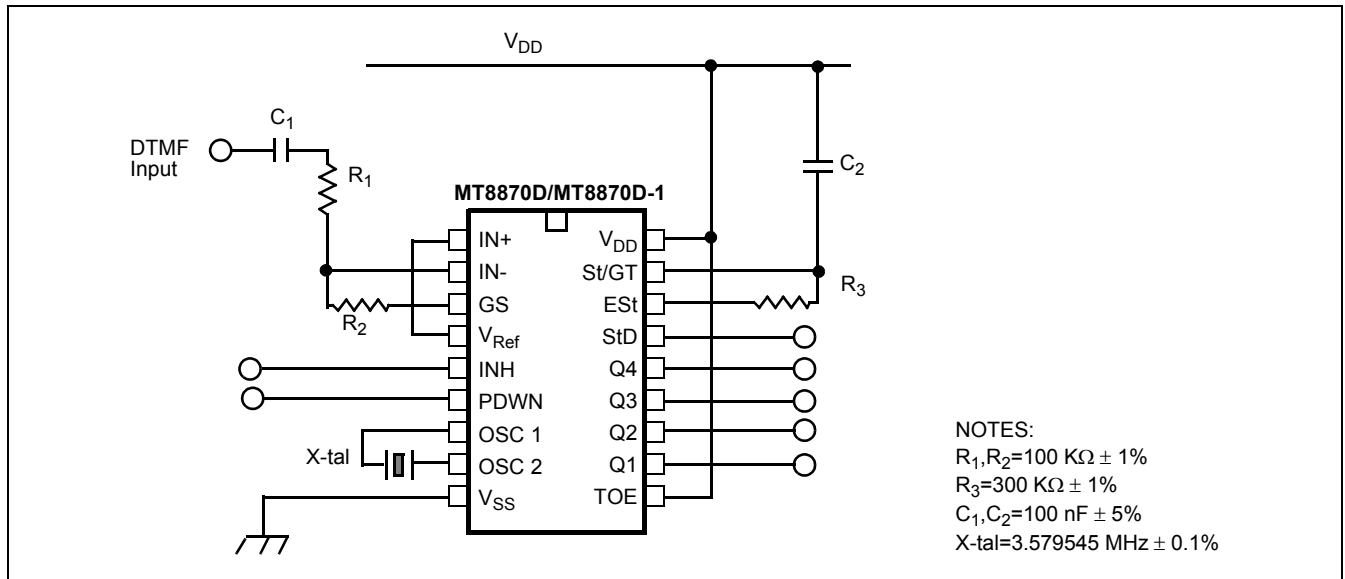

Figure 10 - Single-Ended Input Configuration
MT8870D AC Electrical Characteristics $-V_{DD}=5.0V \pm 5\%$, $V_{SS}=0V$, $-40^{\circ}C \leq T_O \leq +85^{\circ}C$, using Test Circuit shown in Figure 10.
MT8870D-1 AC Electrical Characteristics $-V_{DD}=5.0V\pm 5\%$, $V_{SS}=0V$, $-40^{\circ}C \leq T_O \leq +85^{\circ}C$, using Test Circuit shown in Figure 10.
12. Referenced to Fig. 10 input DTMF tone level at -25dBm (-28dBm at GS Pin) interference frequency range between 480-3400Hz.
AC Electrical Characteristics - $V_{DD}=5.0V\pm 5\%$, $V_{SS}=0V$, $-40^{\circ}C \leq T_o \leq +85^{\circ}C$, using Test Circuit shown in Figure 10.